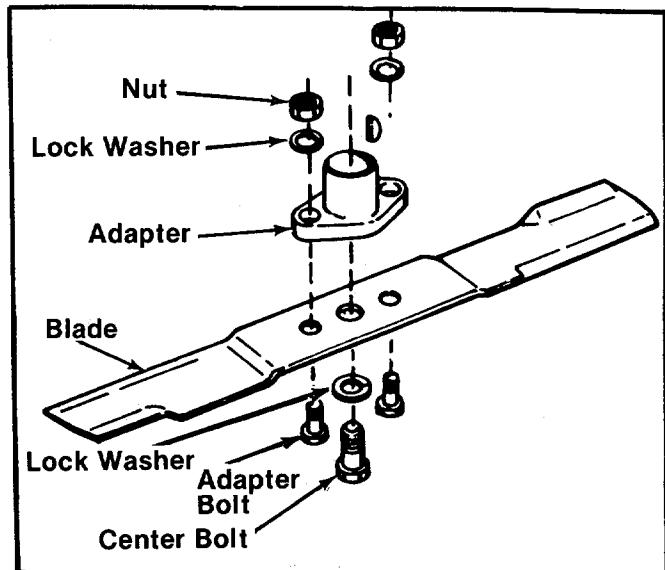

FIGURE 22. BLADE REMOVAL
Step 2. Remove the blade by removing the hex head cap screw in the center of the blade. Hold the blade with one hand and using a $1\frac{1}{2}$ " open end, box or adjustable wrench, remove the bolt. See figure 22.